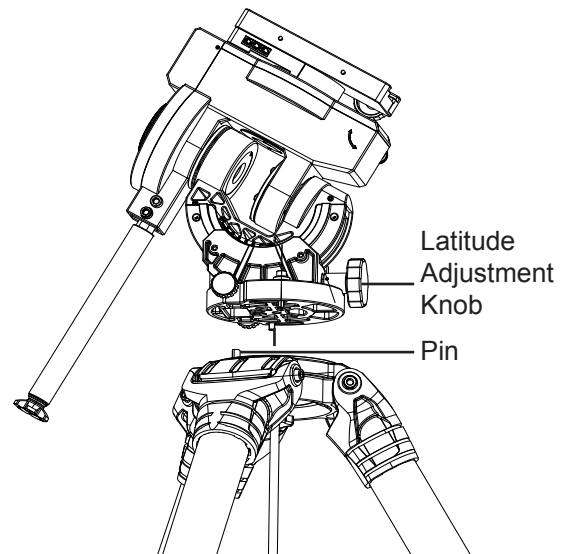

Fig. 1.2b
- Align the metal pin on the tripod top with the gap between the two azimuth adjustment knobs while putting the mount on the tripod top. (Fig 1.2b)